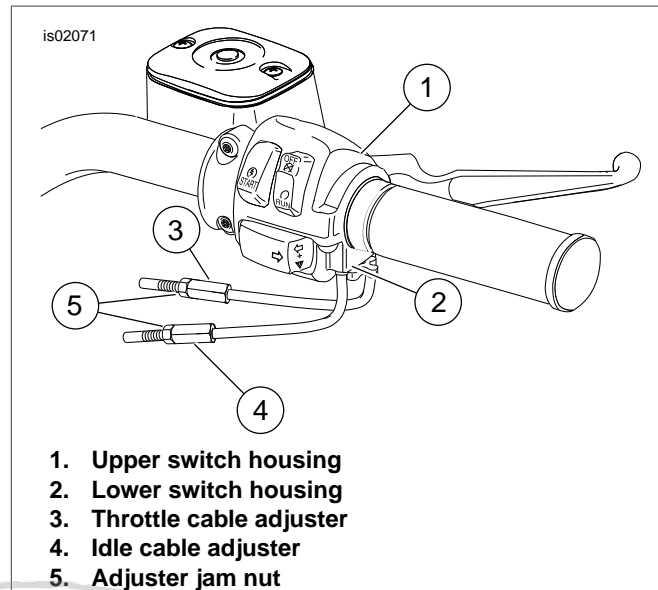

Figure 2. Handlebar Throttle Control
3. See Figure 2. Loosen cable adjuster jam nuts. Turn cable adjusters in until they are as short as possible. This will provide enough slack for easy removal.